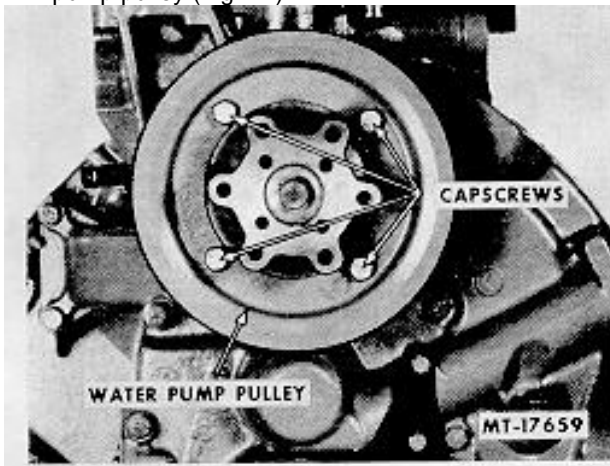

Fig. 41 Water Pump Pulley Removal
43. Remove capscrews and washers and remove water pump pulley (Fig. 41).